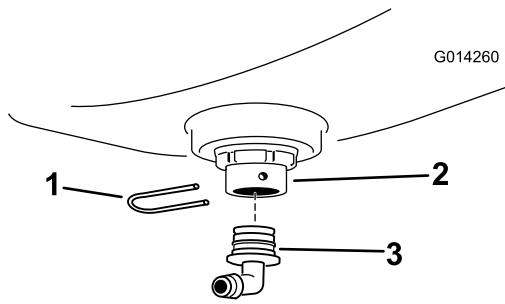

Figure 9
3. Install a 90° fitting to the bulkhead fitting, and secure the 90° fitting with a retaining fork (Figure 9).
5. Assemble the hose segment 43.3 cm (17 inches) that you cut in Cutting the Hose \(page 5\) onto the 90° fitting with a hose clamp, and tighten the clamp by hand (Figure 9).